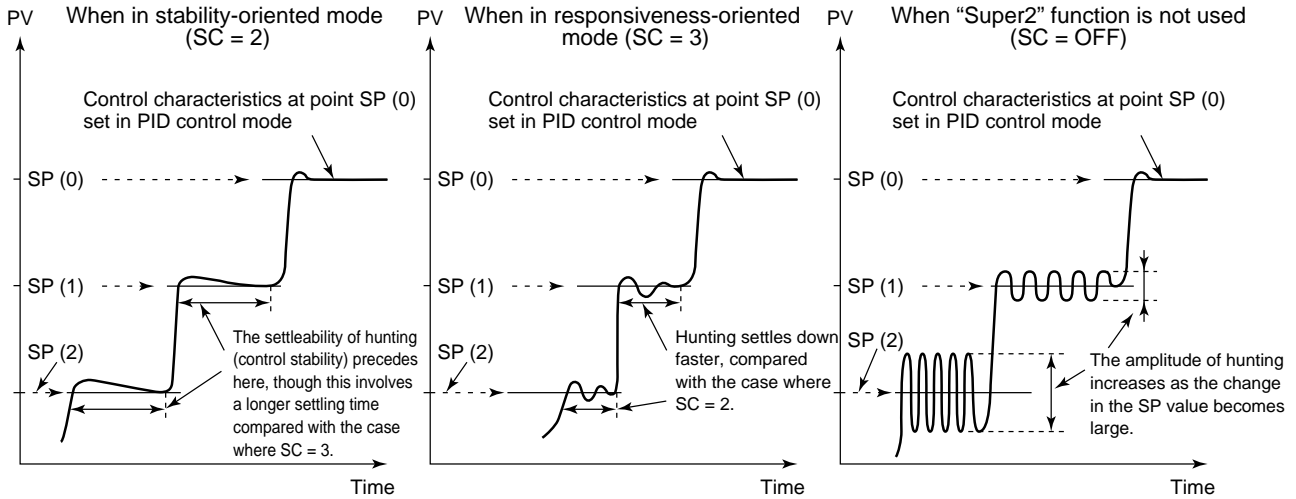

Fig. 2-1-5
You can select either the stability-oriented or responsiveness-oriented mode by setting the “Super” code SC accordingly. The characteristics of hunting prevention in each of these modes are as shown in Fig. 2-1-5. The figure shows examples of the characteristics when PID constants are set for point SP (0) in each mode. Each graph shows how the “Super2” hunting-preventing function works when the SP value is changed to points SP (1) and SP (2) with different SP values. (The example of characteristics at point SP (2) is given to portray how the function works for a greater change in the SP value.) Select whichever mode you think appropriate when you start using the controller.